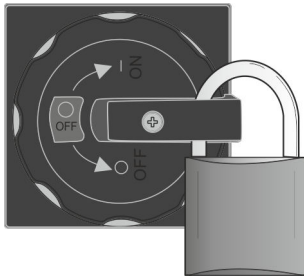

Fig. 11: Main switch
3. Switch off the energy supply at the main switch (Fig. 11). This done by turning the main switch to the “0” position.
4. Secure the main switch with a lock (Fig. 11).